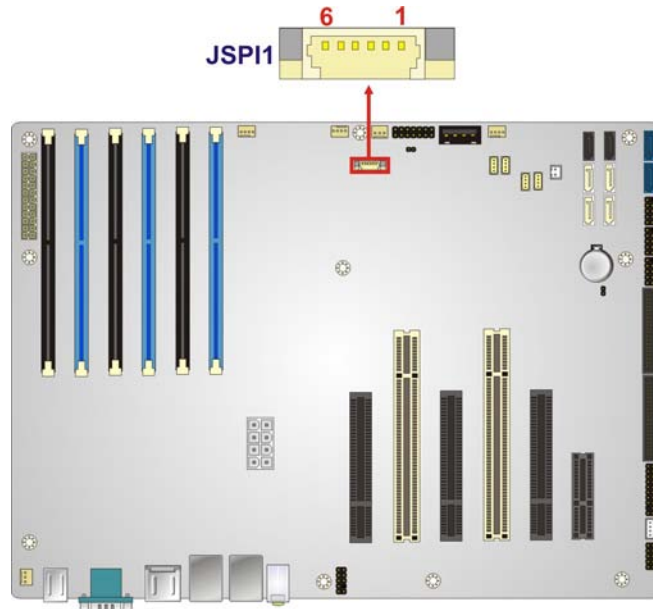

Figure 3-24: SPI Connector Location
- CN Location: See **Figure 3-24**